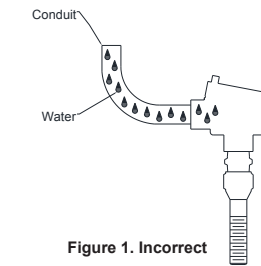
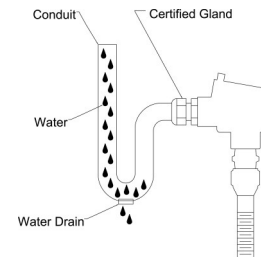

Figure 1. Incorrect
Figure 2. Correct
- All conduit connected electrical devices, including 70 Series GO Switches with connection head assemblies, must be sealed against water ingress through the conduit system. In figure 1, something common has occurred, the conduit system has filled with water. Over a period of time this may cause the switch to fail prematurely. In figure 2, the termination of the switch assembly may be fitted with a certified threaded cable entry device (user supplied) in accordance with the manufacturer's instructions.